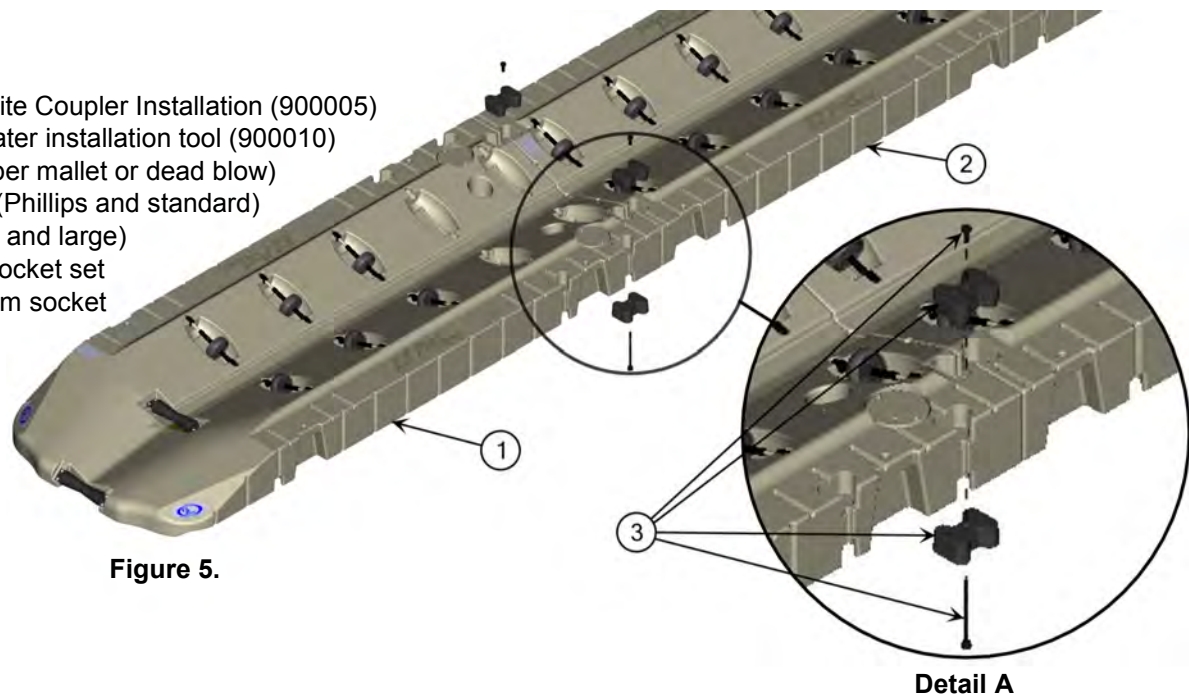

Figure 5.
**Step 1: Assembly (Figure 5)** - Align the EZ Port MAX Entry section (Item 1) with the EZ Port MAX Extension (Item 2) and install two (2) coupler sets (Detail A) provided in the Port to Port Coupler Kit (Item 3).